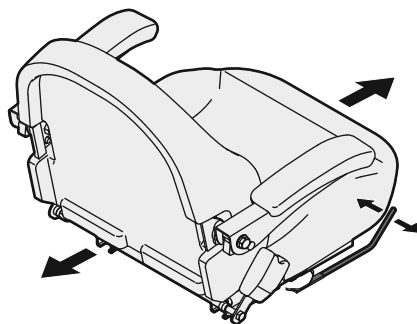

Figure 19
3. Release the adjustment lever. Ensure seat is locked into position before operation. See Figure 19.